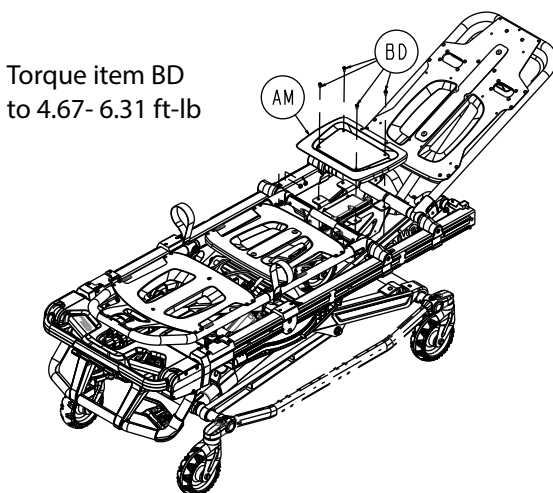

Figure 37 – Remove the seat skin screws
5. Using a T25 Torx driver, remove the four pan head thread rolling screws (BD) that secure the seat skin (AM) to the cot (Figure 37). Remove and save the seat skin. Save the screws.